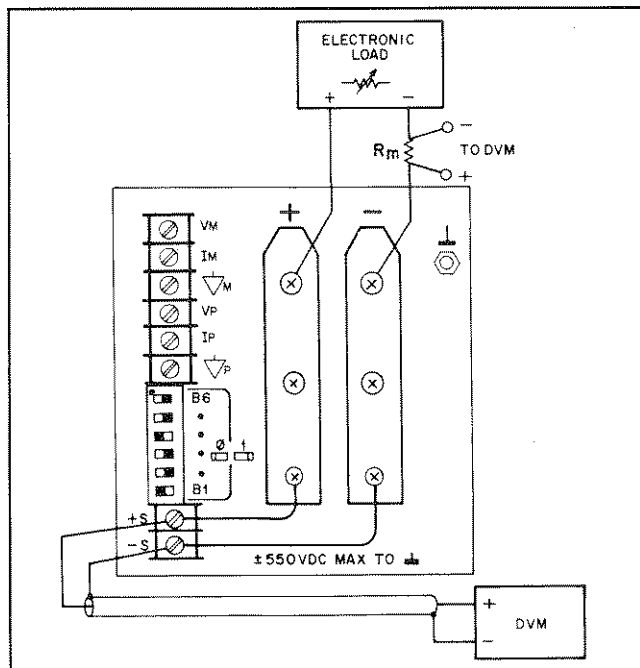

Figure 5-2. Basic Test Setup
**Test Points:** See Figure 5-2
- Connect the test equipment as shown in Figure 5-2. Operate the electronic load in constant resistance mode (Amps/Volt) and set resistance to maximum.
Test Set-up: See Figure 5-2
- Connect the test equipment as shown in Figure 5-2. Operate the electronic load in constant-current mode and set for minimum current.